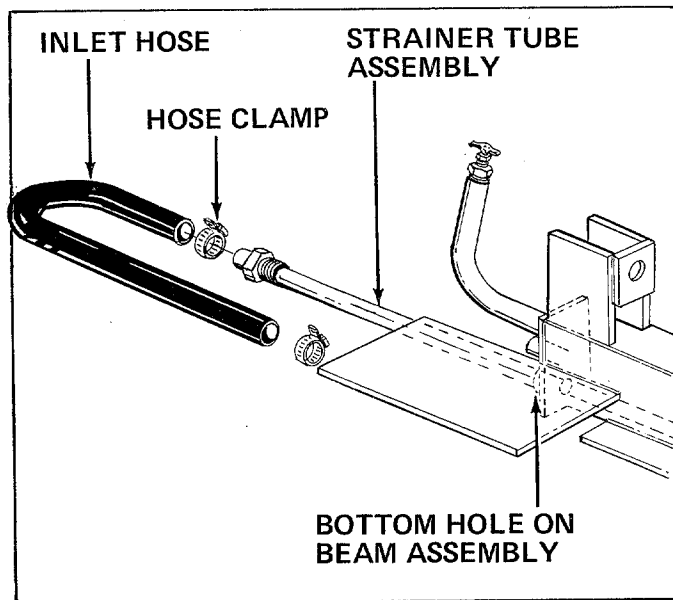

FIGURE 18
2. Pull off inlet hose from strainer tube assembly and catch oil in a suitable container. See figure 18.
3. With an adjustable wrench remove the strainer tube assembly. See figure 18.
1. Remove the hose clamp at inlet hose (bottom hose on rear of beam). See figure 18.